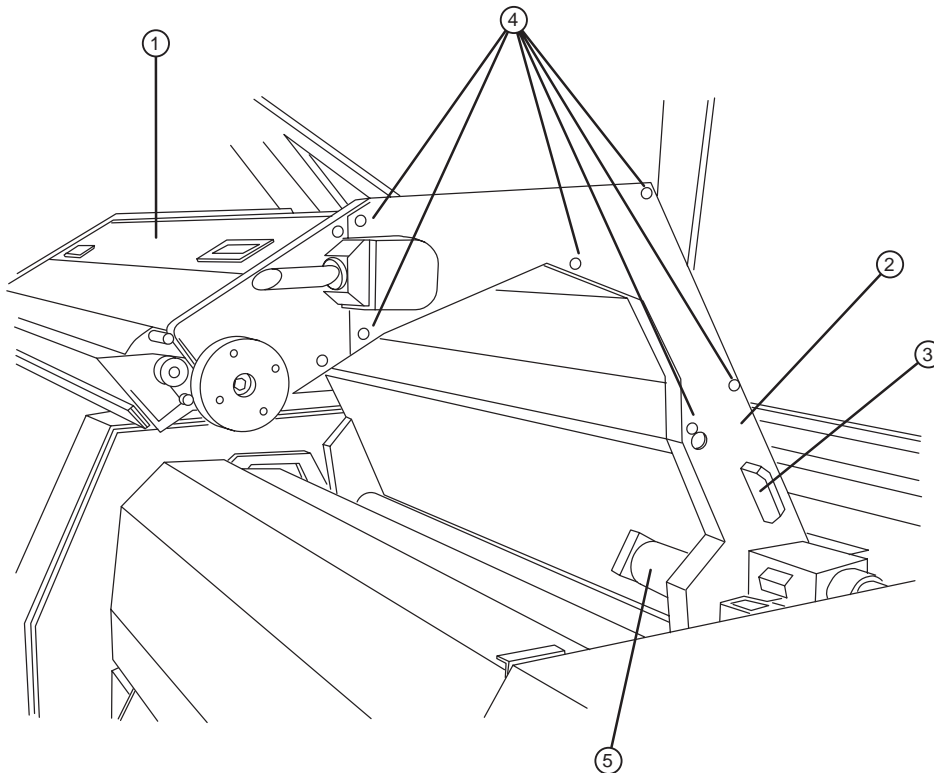

Figure 4-2 Bridge side cover.
2. Using a phillips head screwdriver, remove the six (6) screws from the bridge side cover on the right. Refer to Figure 4-2.
- ①—Bridge. ②—Side cover. ③—Electrical connector.
④—Six side cover screws. ⑤—Upper bridge servo motor.
3. Remove the electrical connector. Refer to Figure 4-2.
6. Remove the power connectors (red on top; brown on bottom) from the upper bridge servo motor. Refer to Figure 4-2 and 4-3.
2. Using a phillips head screwdriver, remove the six (6) holding screws from the bridge side cover on the right. Refer to Figure 4-2.